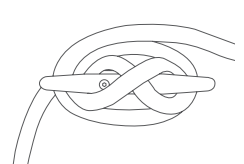

Fig 26 -
3. Make one more full loop in a clockwise direction and pull tight, for added security add one more full loop (Fig 26).